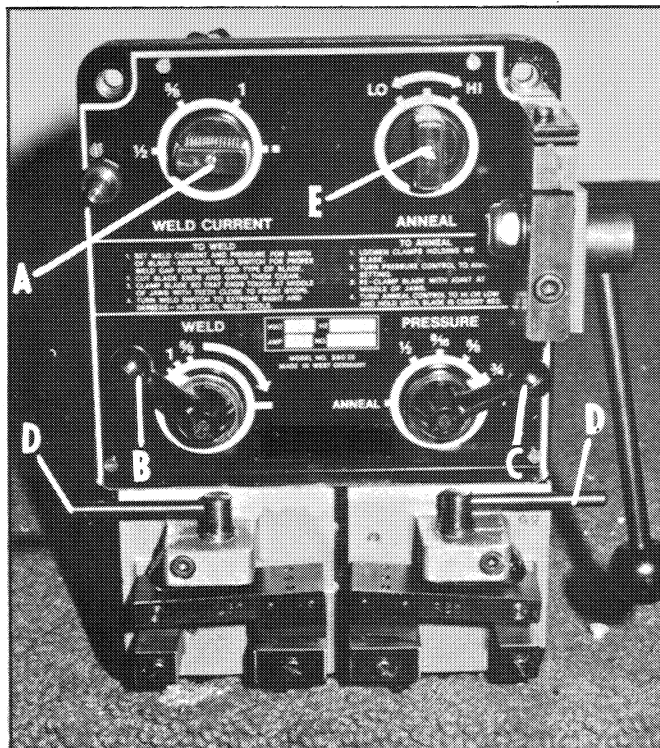

Fig. 6
Set the weld current switch (A), weld switch (B), and pressure switch (C) Fig. 6, to the width of the blade to be welded. Switch settings are calibrated to blades .025" thick. If thickness varies, make trial welds. For thinner blades, weld with short upsetting way, high current and weak upsetting pressure.
Turn the weld switch (B) Fig. 6 clockwise to stop and hold for three seconds. Current is automatically switch off. Stand aside to avoid sparks.
Mild steel blades do not require annealing, but for carbon steel blades, proper annealing is critical. To anneal after welding, loosen the clamps (D) Fig. 6, and widen the jaws by turning the pressure switch (C) counterclockwise. Re-clamp the band with the weld in the center. Hold the annealing switch (E) on high until the weld becomes cherry red. Retain temperature for a few seconds by turning the switch ON and OFF from the high position and then allow the joint to cool gradually, using the same ON and OFF process from the low position. Turn off when the color has completely faded from the weld seam area. The entire process should take from 10 to 15 seconds. High alloy steel bands, including those with low tungsten content, should be annealed for a longer time at lower temperatures.